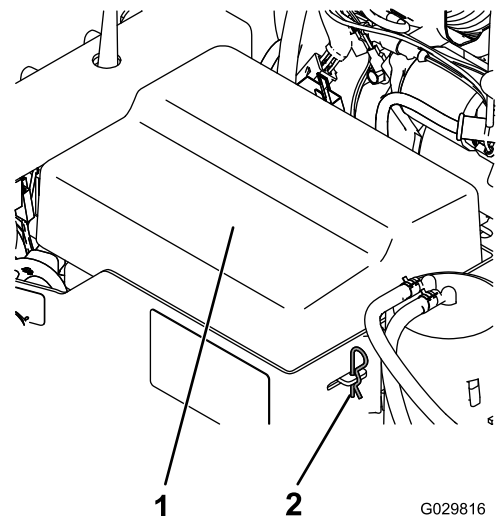

Figure 4
1. Remove the clips securing the battery cover to the battery box (Figure 4).